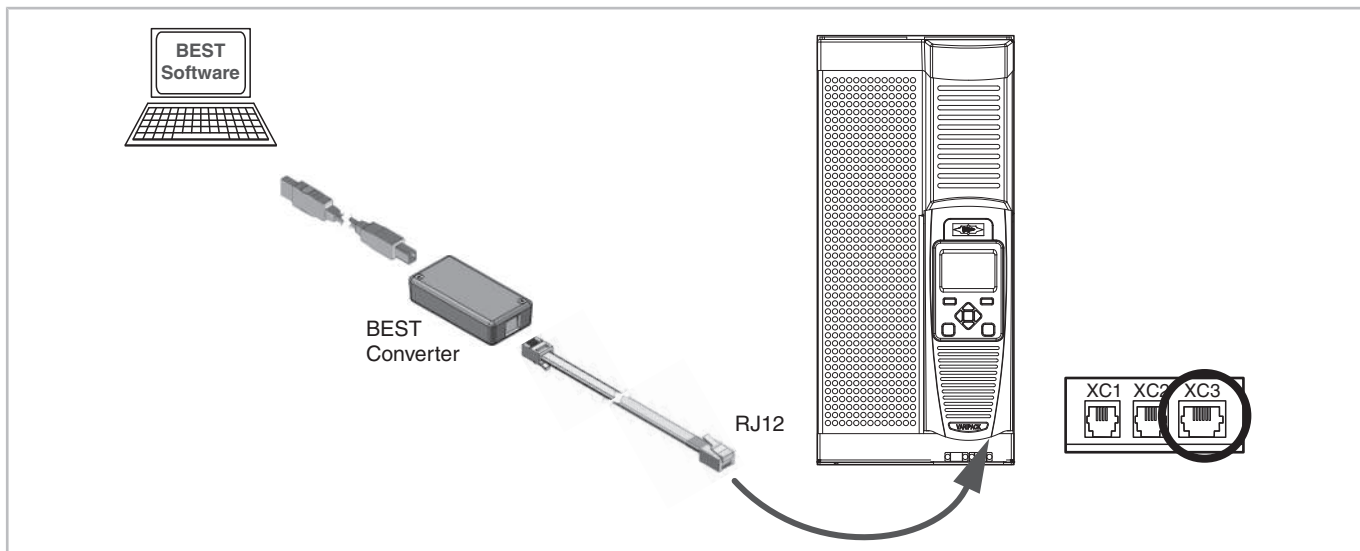

Fig. 25: Connecting VARIPACK via BEST interface converter and RJ12 cable with a PC/mobile device
- Plug the BEST interface converter into the right socket (XC3) on the underside of the interface extension of the VARIPACK FI (see figure 25, page 37).